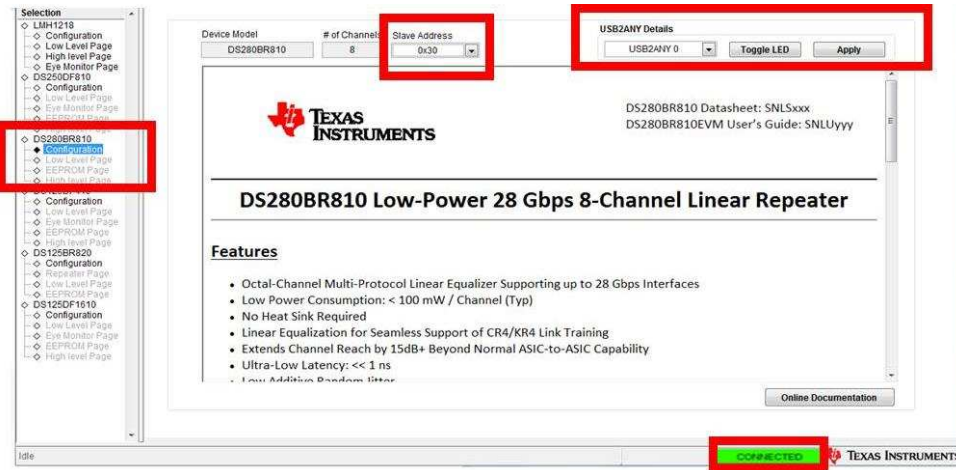

Figure 5. SigCon Architect Configuration Page
- Open SigCon Architect, and navigate to the “Configuration” page of DS280BR810 via the “Selection” column. Choose “Slave Address” “0x30” from the drop down menu. Verify the “USB2ANY Details” specify “USB2ANY 0,” and click “Apply.” Successful connection is indicated by the green “CONNECTED” indicator on the bottom of the application, as seen below in Figure 5. Once connection is successfully established, users can read and write various settings to the device in real-time, as described in the following steps.